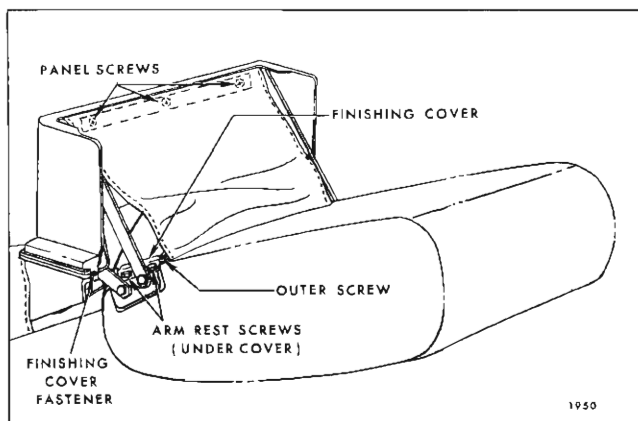

Fig. 1H49—Front Seat Center Arm Rest
2. Working between arm rest and seat back, remove fastener at both sides of arm rest securing front end of screw finishing covers (Fig. 1H49).
rest support attaching screws; then remove screws (Fig. 1H50). Repeat this operation on opposite side of arm rest; then carefully remove arm rest assembly, including trim panel finishing cover, from seat.